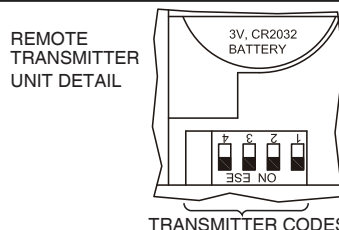

Figure 14
1. To set the transmitter code, remove battery cover by pressing firmly below arrow and sliding cover off. Slide code switches to your choice of up or down position. Factory setting is all up. Do not use this position. With a small screwdriver or ball point pen slide firmly up or down. Replace battery cover on the transmitter (Figure 14).